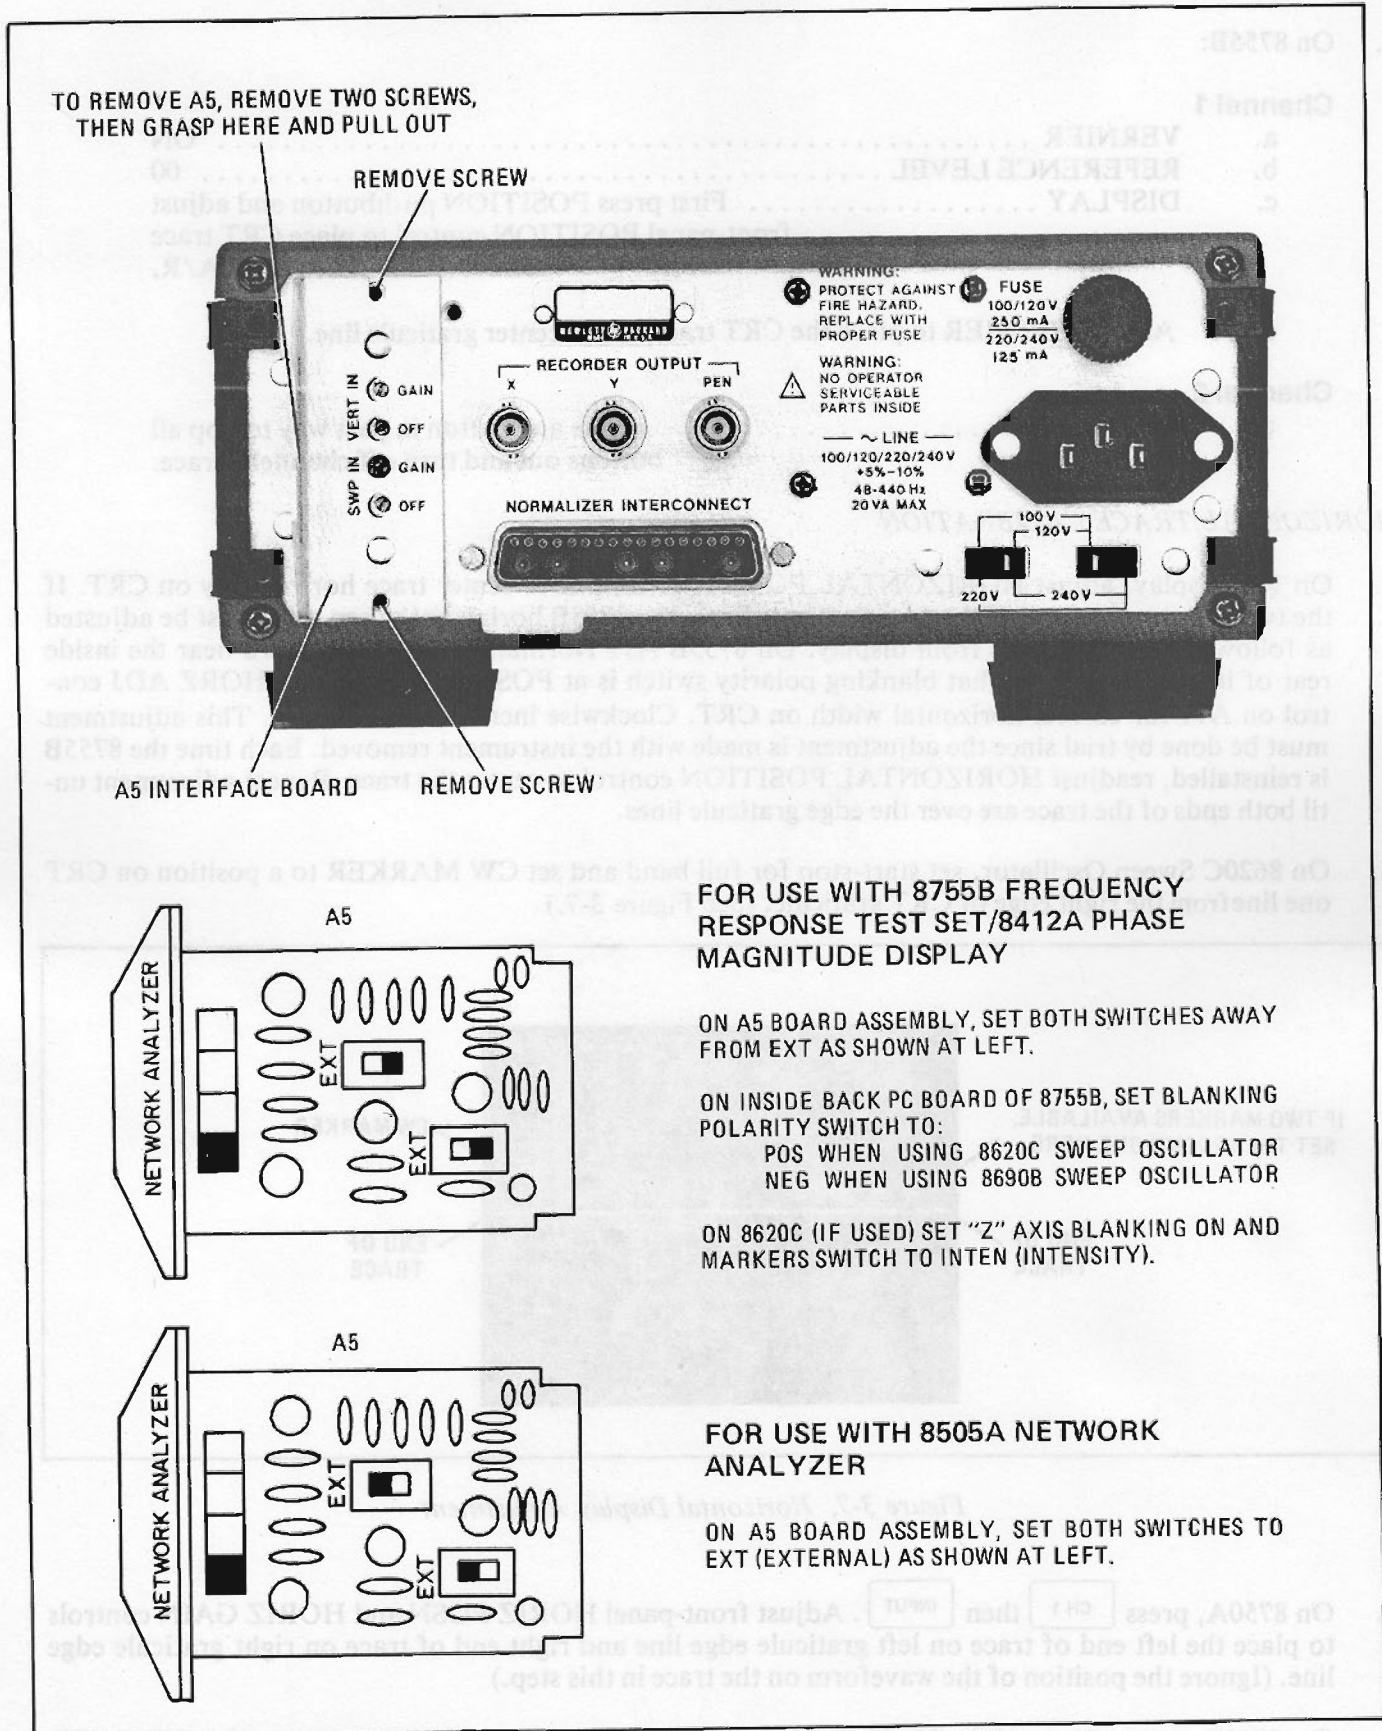

Figure 3-6. 8750A Network Analyzer Interface Board
- a. If installed, pull out A5 Network Analyzer Interface Board at rear panel of 8750A. (See Figure 3-6.)
- b. Set the switches on A5 to one of the combinations shown in Figure 3-6, depending on what network analyzer is used.